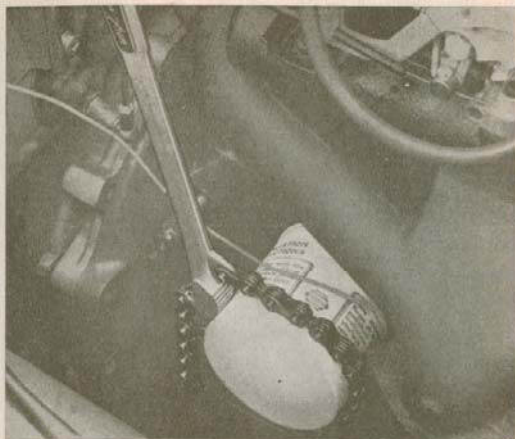

Fig. 1-58. Removing the oil cleaner
1. Remove the old oil cleaner with the help of a tool, as shown in Fig. 1-58.
2. Loosen the cooling water connections at the oil cooler. Remove the oil cleaner, see Fig. 1-58.